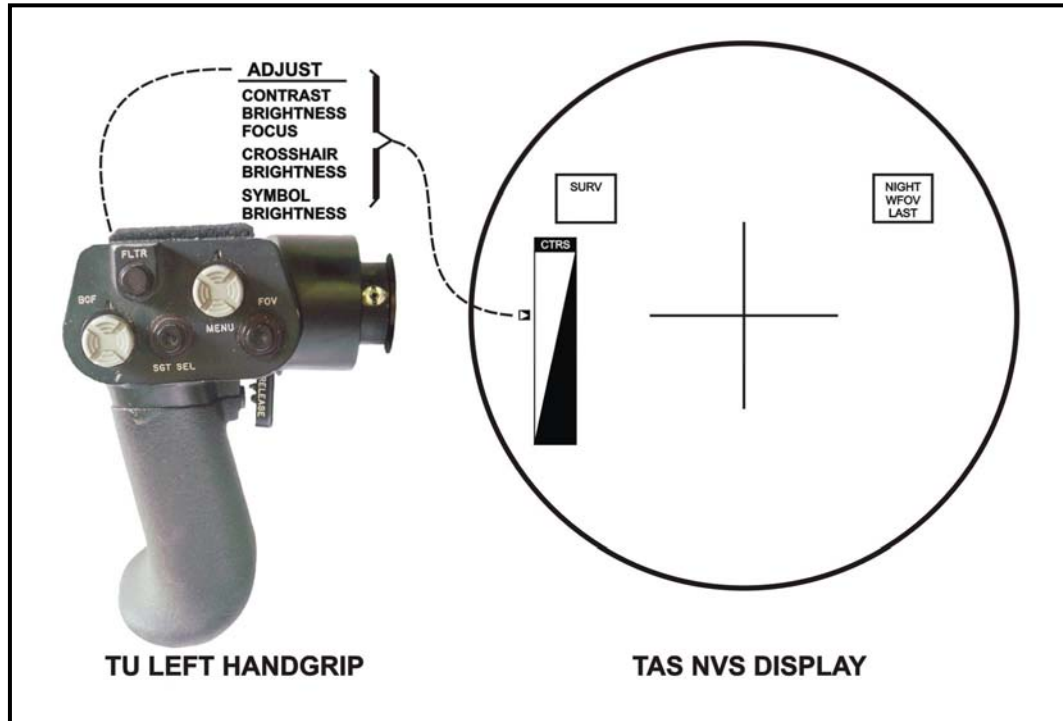

Figure 2-3. BCF switch and TAS display.
(1) **Brightness, Contrast, and Focus (BCF) Switch** (Figure 2-3). The BCF switch is a push-button toggle used to adjust the symbol brightness and the crosshair brightness when using the daysight. When using the NVS, the BCF is used to adjust the TAS display brightness, contrast, and focus. Symbol brightness, crosshair brightness, zoom, and adjustment reset can be selected.